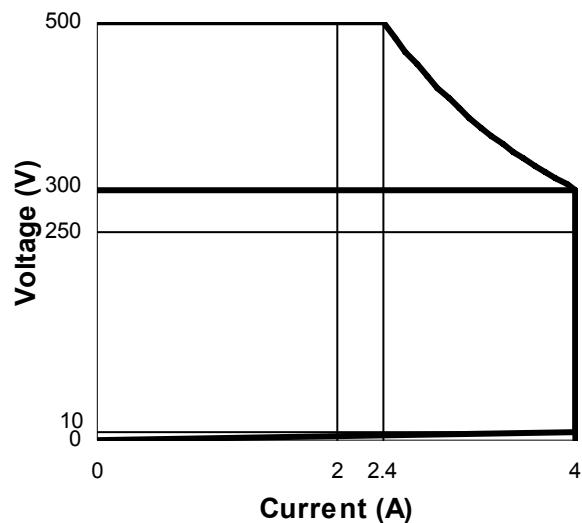

Figure 1-1 SLH-500-4-1200 Electronic Load Power Curve
- Figure 1-1 SLH-500-4-1200 Electronic Load Power Curve 1-1